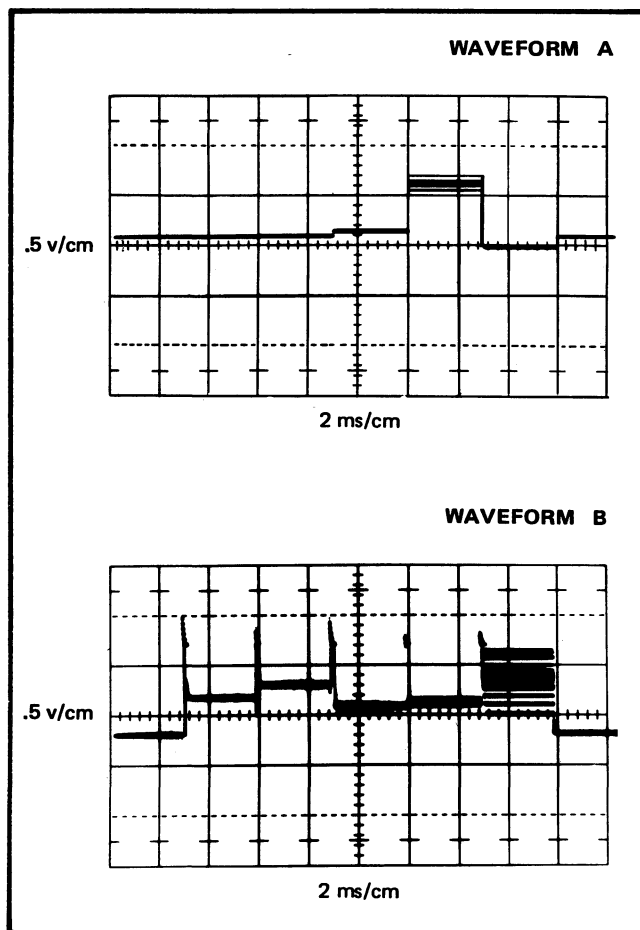

Figure 4-8. WAVEFORMS AT TP106
- a. With 0.0000 volts DC applied to the A/D Converter input at A3 R102, the scope presentation should look like Figure 4-8, waveform A. If the waveform is correct, proceed to step b. If the waveform is incorrect, the malfunction may be in the A/D amplifier, or A/D Amplifier Auto Zero Drive Circuit.
- b. With +6.3524 Volts DC applied to the A/D Converter input at A3 R102, the scope presentation should look like Figure 4-8, waveform B. If the waveform does not indicate proper digit information (the series of small step increases at the top of each spike) for the second and fourth digits, check the sample and hold circuit Q125, C108, Q124 or logic control gate 1 and gate 2. If the digit information for the third and fifth digits is incorrect, check sample and hold circuit Q127, C109, Q126 or logic control gate 11 and gate 22 for a malfunction.